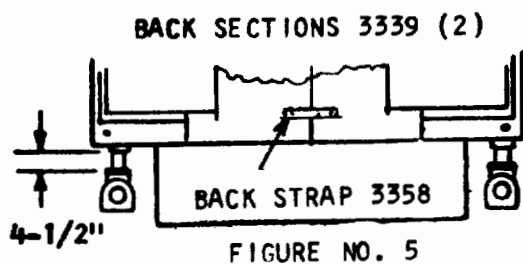

FIGURE NO. 5
4. CLEAN THREADS OF TAPPINGS ON BOTH HALVES OF BACK SECTION, THEN PLACE ON THE FOUNDATION AND SCREW THE SUPPLY DRUM NIPPLES TIGHT INTO SECTIONS USING PIPE JOINT COMPOUND ON THE THREAD AND EMPLOYING THE WOOD SPACING GAUGE TO MAINTAIN THE EXACT DISTANCE FROM THE BOSS ON THE DRUM TO THE FACE OF THE SECTION AT THE PARTING LINE WHEN THE SECTION IS PLUMB AND THE SUPPLY DRUM IS LEVEL. SEE FIGURE NO. 2 DIMENSION OF 3 INCHES FOR BOTH STEAM AND WATER DRUMS. CHECK TO SEE THAT SECTIONS ARE CENTERED ON FOUNDATION. INSTALL BACK CONNECTING STRAP (3358) IN THE POSITION SHOWN IN FIG. NO. 5.